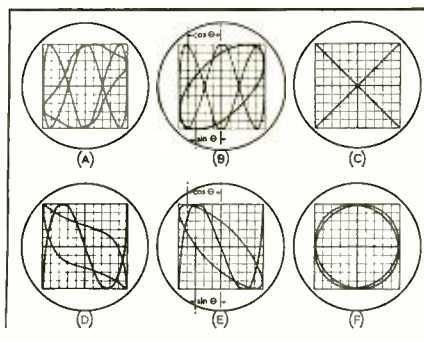

Fig. 5. Typical traces obtained using the method of Fig. 4. Significance and use of each is explained in the text.
2. Switching over  $SW_2$  to BRI with  $SW_1$  in position 1, the input from the oscillator is adjusted until the trace is the same width again. The bridge circuit values, and the gains of the two Y amplifiers are now adjusted to make the two patterns fall between the same two horizontal rulings, as shown at (A) in Fig. 5, the one from  $Y_2$ , taken from the null point, touching each line in three places.
3.  $SW_1$  is moved to position 2, giving the traces shown at (B), and the dimensions of the ellipse used to determine the phase angle of the fundamental as indicated.
4. Return  $SW_1$  to CAL position, and adjust the three potentiometers to give the pattern shown at (C), the essential features of which are: (a) the Y deflection amplitudes are both the same as in patterns (A) and (B); (b) the phase relation between X and Y deflection voltages is zero, because both traces are straight lines. The cross pattern is due to phase reversal of one half of the double beam; use of an electronic switch will produce
Fig. 6. This phase shift network enables the alternative traces of Fig. 5 to be displayed, giving the actual hysteresis loop, and a check on phase angle result. Exact 90-deg. phase shift requires adjustment for each frequency of measurement, using the method explained in the text.